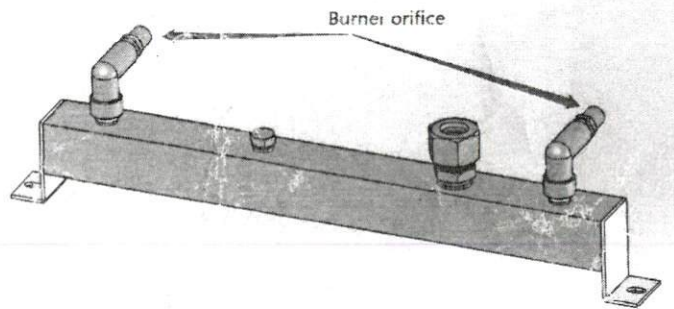

Fig. 2
3. The manifold pipe can be taken off. You will see the burner orifices in Fig. 2.